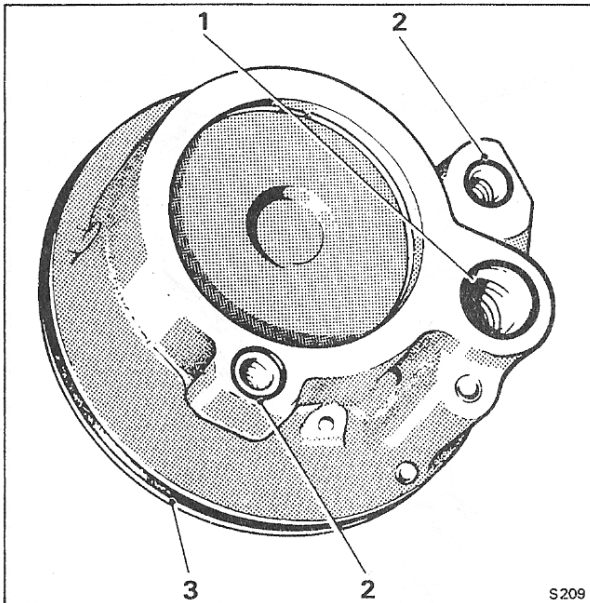

Fig. N19 Position of external sealing rings
13. Lubricate the outer diameter of the end plate to prevent damage to the fitted 'O' ring. Position the pump under a suitable arbor press (see Fig. N24). and press the end plate into the housing sufficiently to allow the retaining ring to be fitted (see Fig. N19).